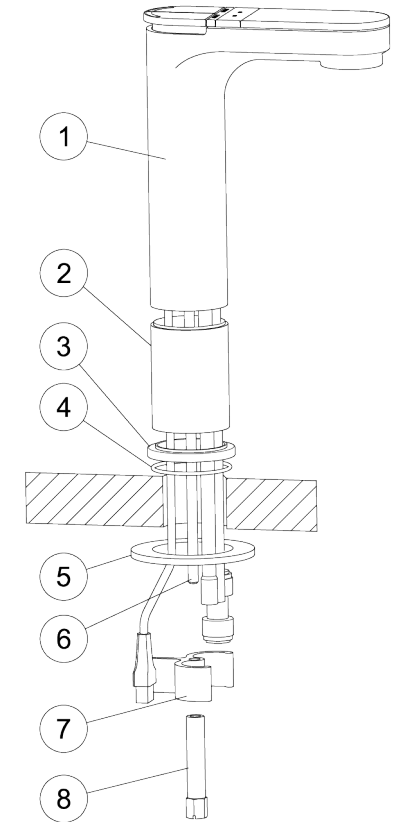

Figure 2. TAP ASSEMBLY
The components of the drain should be assembled as shown in Figure 2, ensuring the seal washers (item 4) are correctly placed as shown and the back nut (item 6) is firmly secured.
Installation of the tap assembly is described in the tap instructions supplied with the tap. For the extended tap shown in Figure 2, the extension tube (item 2) is fitted between the tap body (item 1) and the base ring (item 3). A longer mounting stud (item 6) may be required and is supplied with the Sink Free Kit.